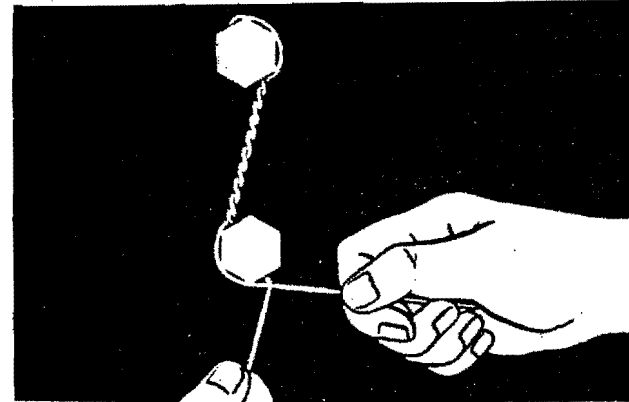

Figure 7-7. Second Bolt Secure
f. Bring the other end of the wire counterclockwise around the head of the second bolt and under the wire end which protrudes from the bolt hole [Figure 7-7].